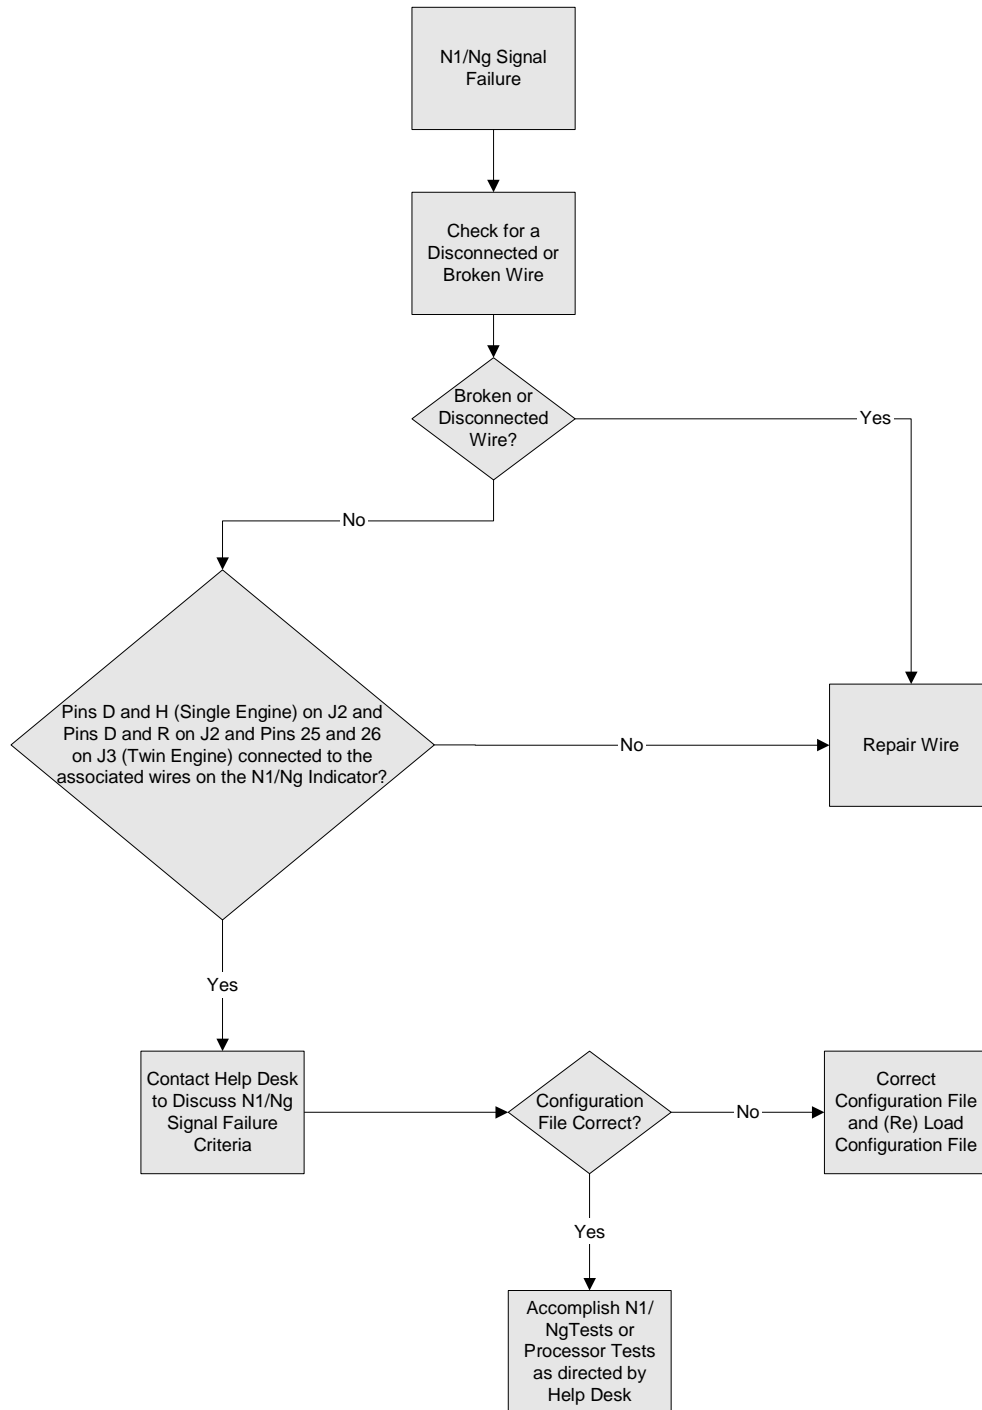

Figure 31: N1 (Ng) Signal Failure Troubleshooting
- a. Signal Failure – Refer to Figure 31